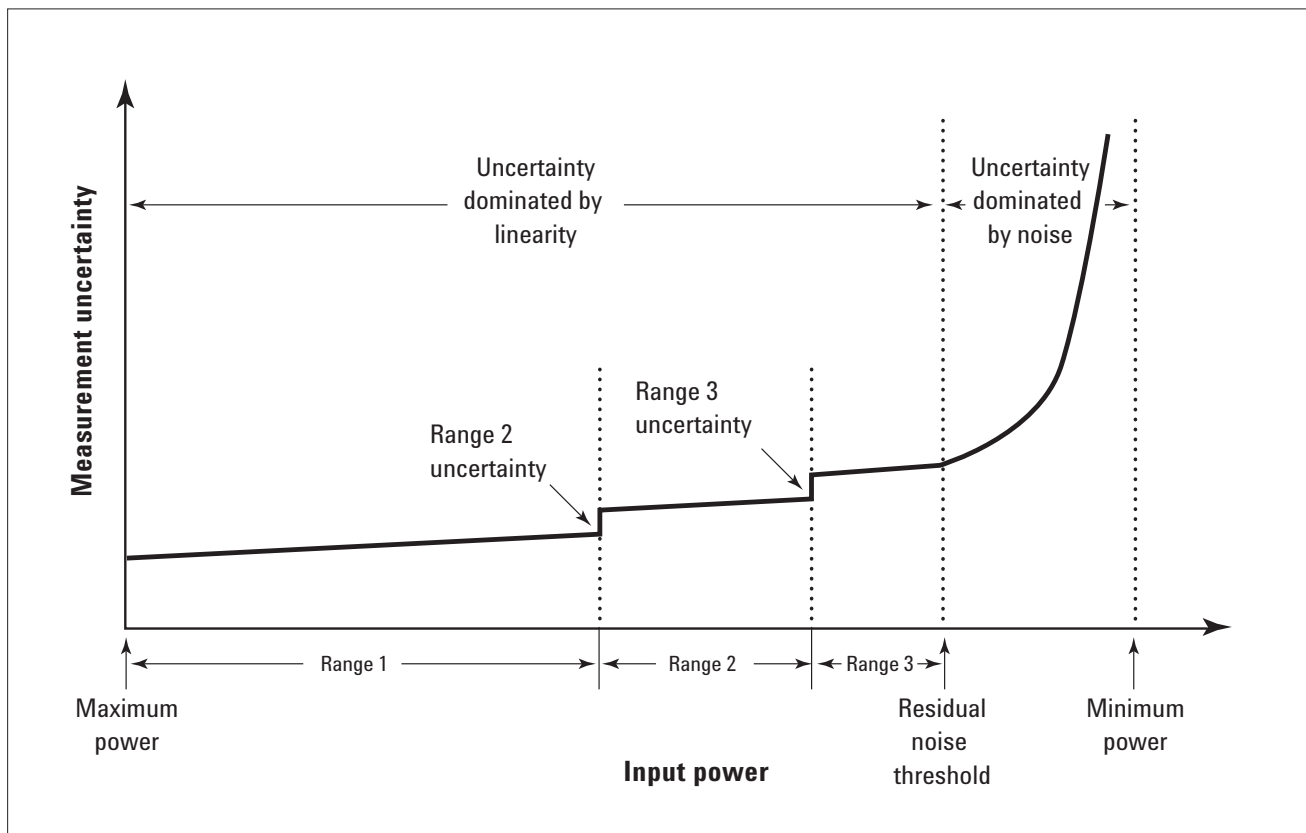

Figure 1. Measurement uncertainty vs. input power relationship
1. In absolute accuracy of TRFL measurements, the cumulative error is the error incurred when stepping from a higher power level to the Residual Noise Threshold power level. See Figure 1 for a graphic. In order to calculate the cumulative error, you must determine the Residual Noise Threshold power and determine the Power Meter Range. The formula to calculate the cumulative error is: ± (Power Meter Range Uncertainty + 0.005 dB/10 dB step). For example: the power sensor is Option 504, starting power is 0 dBm and power will be stepped to -120 dBm. Therefore starting power falls in the Power Meter Range 2-4 and the uncertainty is ± 0.190 dB, as indicated in the table on the next page. The Residual Noise Threshold Power is -106 dBm at IFBW of 10 Hz. This is calculated per the Minimum Power specification in the table on the previous page. Assume no preamp is installed, and that the measurement frequency is 10 MHz to 3 GHz. The Residual Noise Threshold Power is -136 dBm + 30 dB = -106 dBm using the formula on this page. The cumulative error is then ± (0.190 dB + [106/10] x 0.005 dB), or ± 0.245 dB, where [x] is a ceiling function that means the smallest integer not less than x, which is 11 in this example.